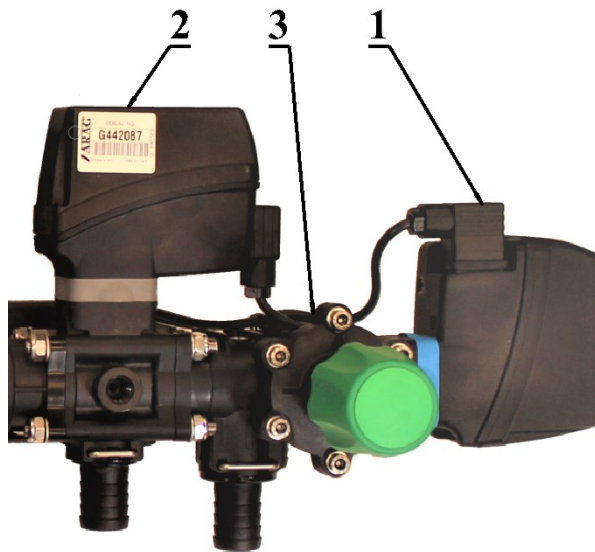

Figure 48
- The HPX sprayer series has a relief valve on the underside of the distribution valves, which ensures that the pressure in the distribution lines is relieved after the closure (Figure 48).